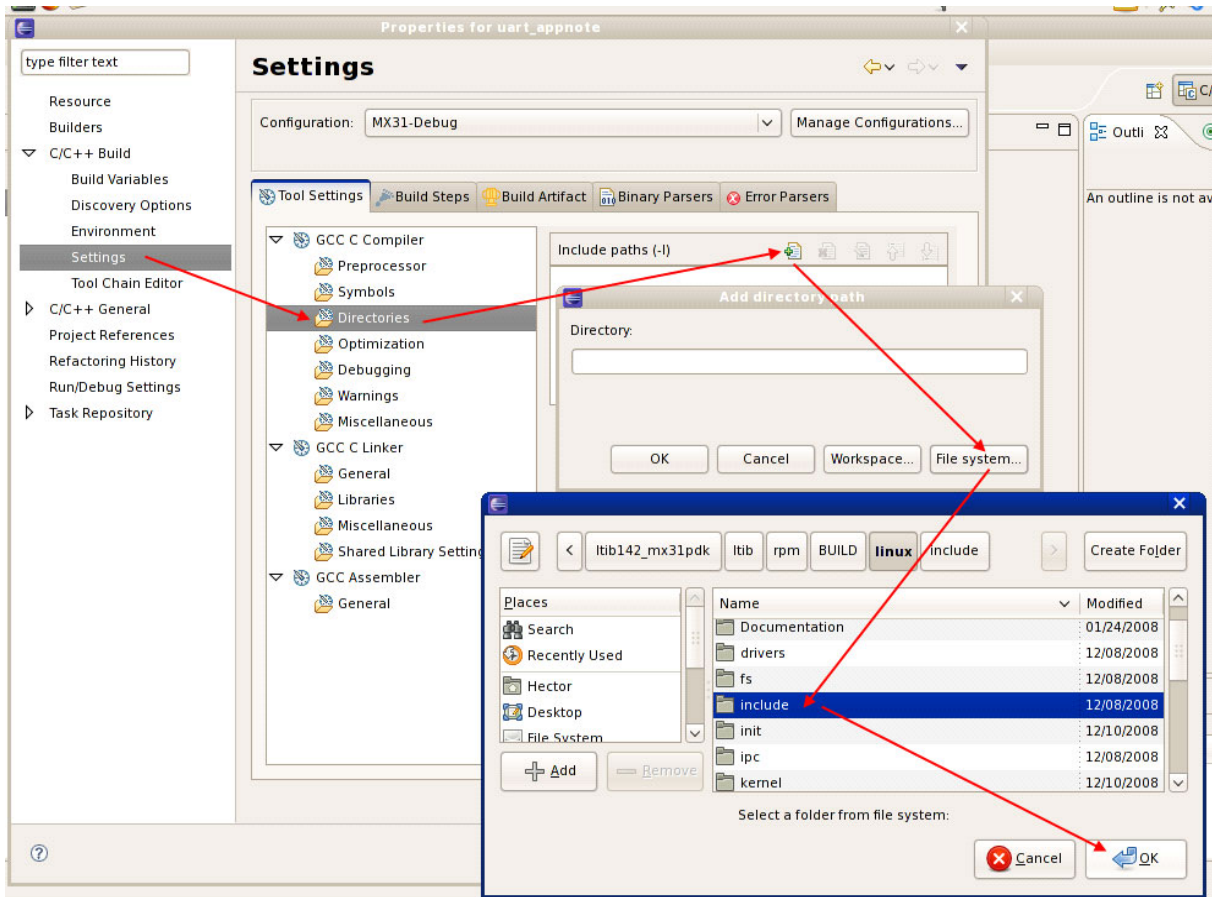

Figure 5. Adding the Include Directory
d) Select the include directory and click OK as shown in Figure 5